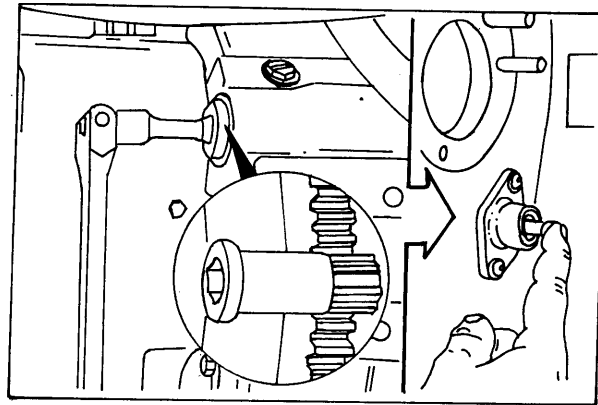

Fig. 5.25. Positioning a Cylinder Piston in TDC
3. Position the first cylinder piston in the top dead center (TDC) by turning the pinion on the rack by hand and simultaneously pressing the timing pin (Fig. 5.25). When the pin slides into the camshaft hole/opening, the cylinder piston has reached the top dead center (TDC).